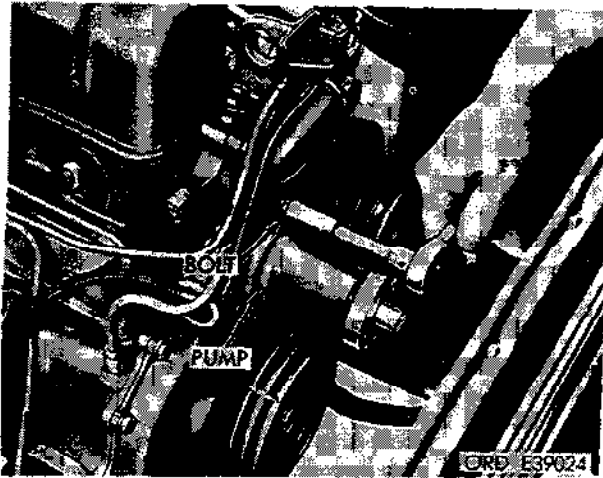

Figure 2-142. Remove water pump.
(5) Remove three bolts securing water pump to cylinder block (fig. 2-142).